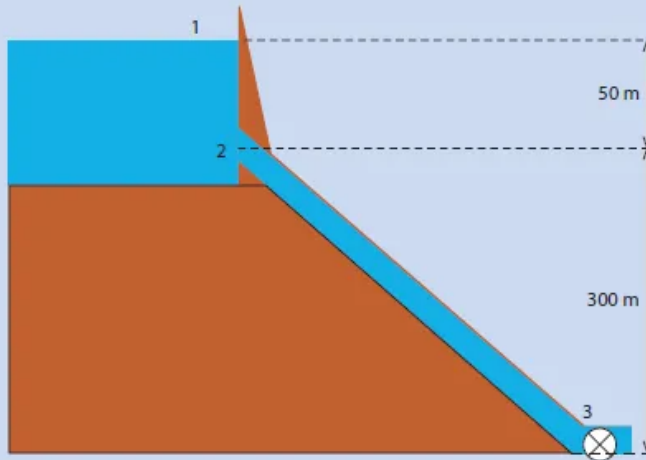

Figure B.53
- B.27** In a hydroelectric power plant (Figure B.53), water leaves a dam from a point 50 m beneath the surface. It enters a pipe of radius 80 cm and is incident on a turbine through a pipe of radius 40 cm. Calculate **a** the speed of the water as it hits the turbine, and **b** the pressure at point 2.